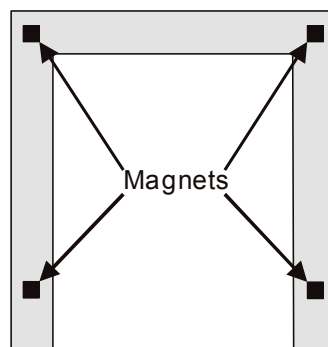

Figure 16
2. The trim is held on by four magnets. These will either be attached to the trim or supplied loose in a separate envelope. Space them as shown in **Figure 16**.